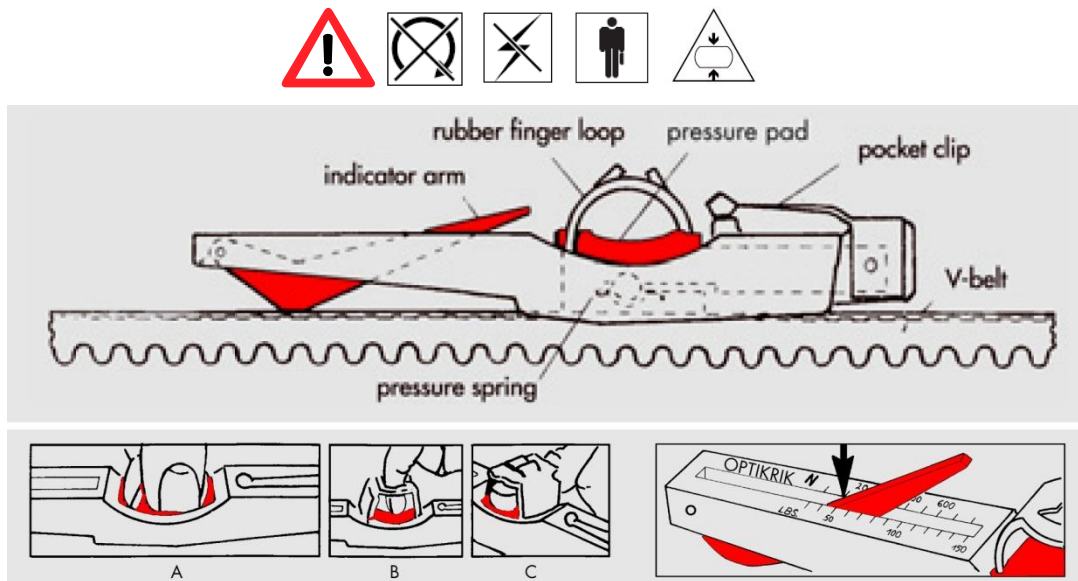

Figure 13
- 1-Figure 13 (A, B or C) shows the three correct ways to grip the gauge so that the pressure is applied only on the *pressure pad*.
- 5-Read the tension on the indicator arm as shown in figure 13.